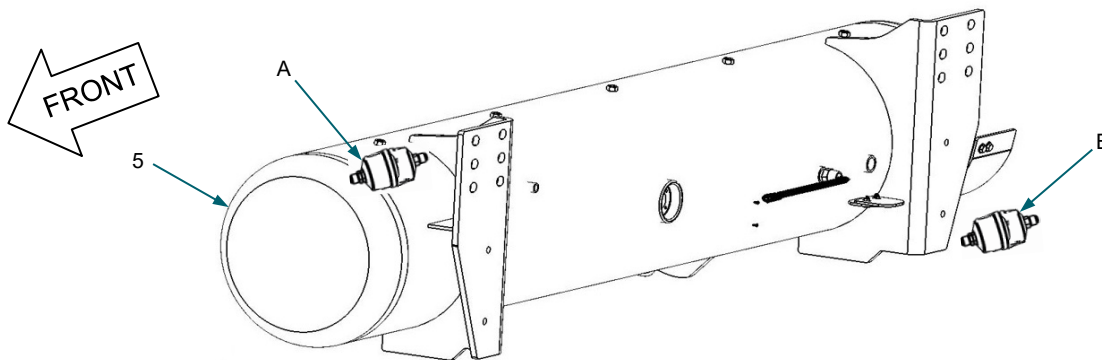

Figure 1:
- **Fill Filter** secured using a block clamp bolted to a bracket affixed to the inner rear of the Fuel Tank protective “cage” structure on the passenger side frame rail. *Figure 1*
- **Inline Filter** secured using P-clamps bolted to a bracket affixed to the inner front of the Fuel Tank cage. *Figure 1*